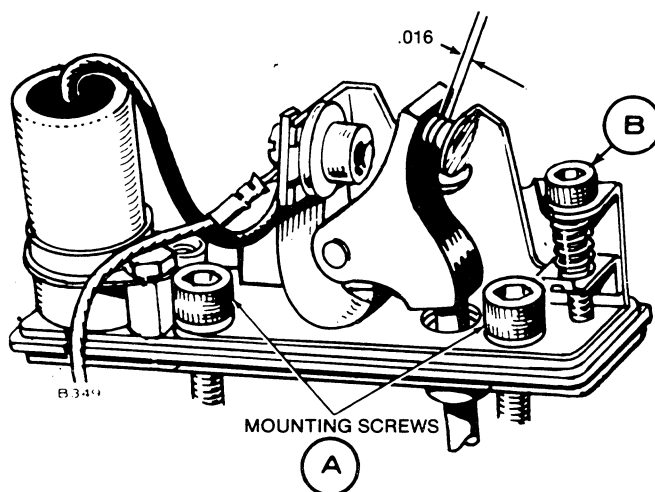

FIGURE 17. TIMING AND BREAKER POINTS ADJUSTMENT
3. Using an allen head wrench, adjust set screw (B) for .016 (0.41 mm). Measure point gap with a flat thickness gauge. See Figure 17.